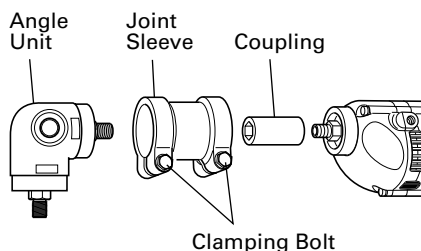

Fig. 9
(2) Attaching the angle unit.
- Tighten two clamping bolts equally and gradually in turn with a torque of 61-70 In-lbs. (70-80kg-cm) (extent of force which can be subjected by only a wrist with the open end wrench provided to tight clamping bolts.). (Fig. 9)